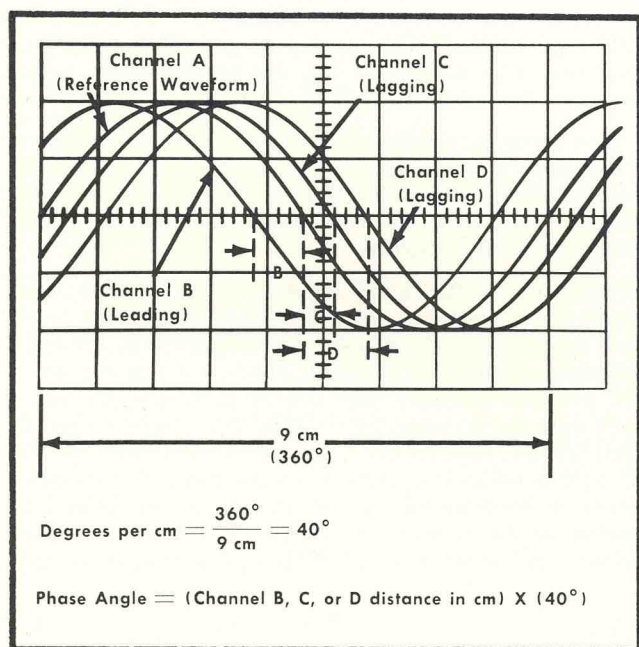

Fig. 2-6. Measurement of phase angles between electrical waveforms.
6. Set the oscilloscope time-base controls (includes the Variable Time/Cm control) so that one cycle of the reference signal occupies exactly 9 centimeters horizontally. Thus, each centimeter represents  $40^\circ$  of one cycle at this time-base setting (see Fig. 2-6).